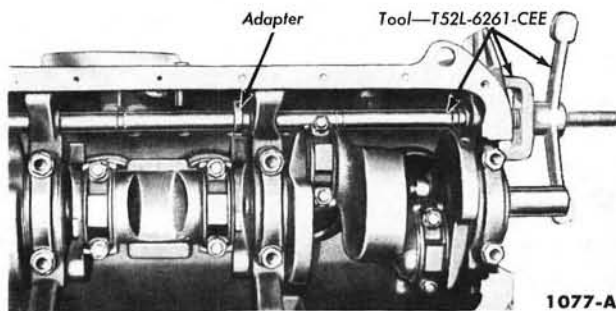
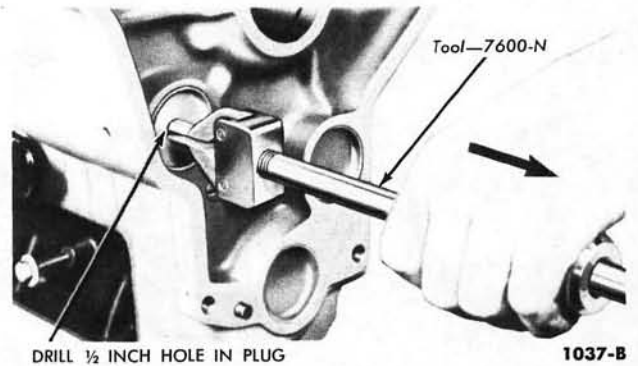

FIG. 31—Camshaft Bearing Replacement
FIG. 30—Camshaft Rear Bearing Bore Plug Removal
1. Remove the engine from the chassis, then remove the camshaft. Drill a 1/2-inch hole in the center of the camshaft rear bearing bore plug and remove it as shown in Fig. 30. Remove the camshaft bearings (Fig. 31).
2. Position the bearing at the bearing bore and press it in place (Fig. 31). **Number 1 camshaft bearing must be pressed in 0.005-0.020 inch below the front face of the bearing bore. Press the remaining bearings in sufficiently to align the oil supply holes.**